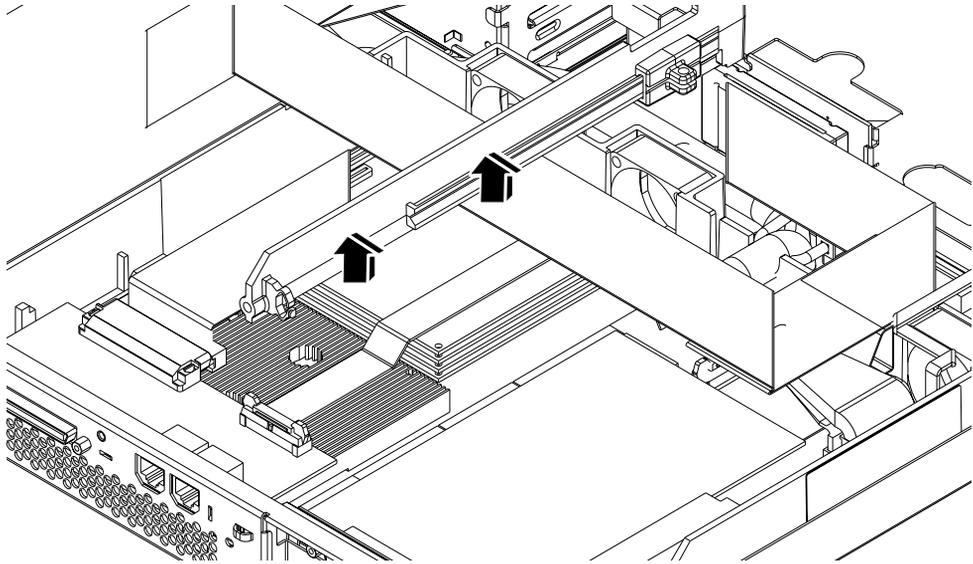

FIGURE B-3 Lifting Out the Mid Baffle
b. Lift the mid baffle out of the unit (see FIGURE B-3).